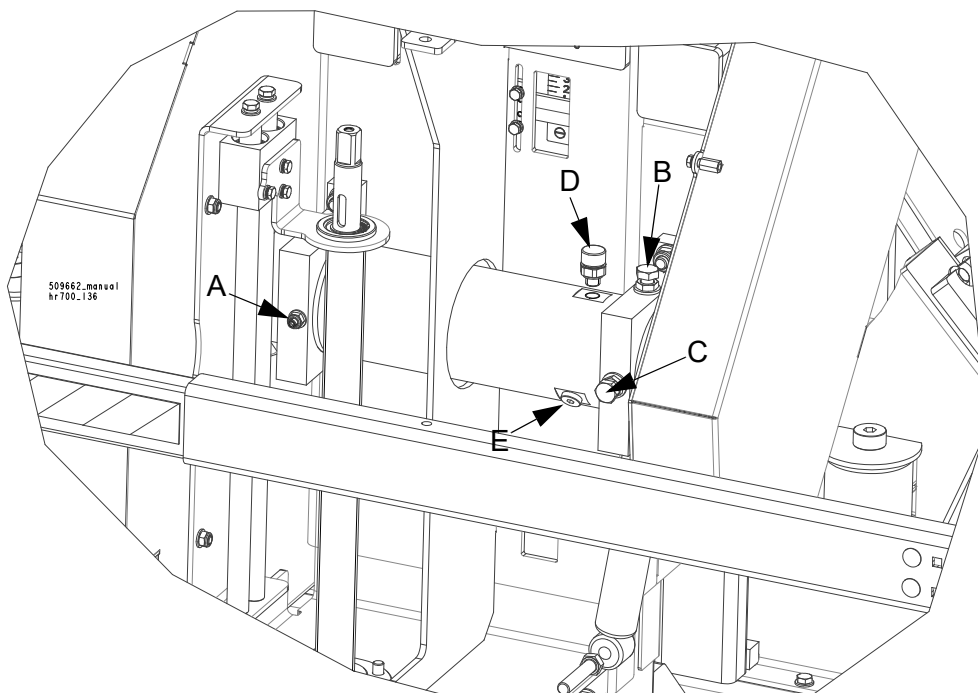

FIG. 4-1
5. Every 200 hours of machine operation, check the oil level and the condition of the drive-side wheel shaft seals. To check the oil level, unscrew the oil drain plug (marked with E in Figure 4-1). The oil level should be at the lower edge of the oil drain hole.